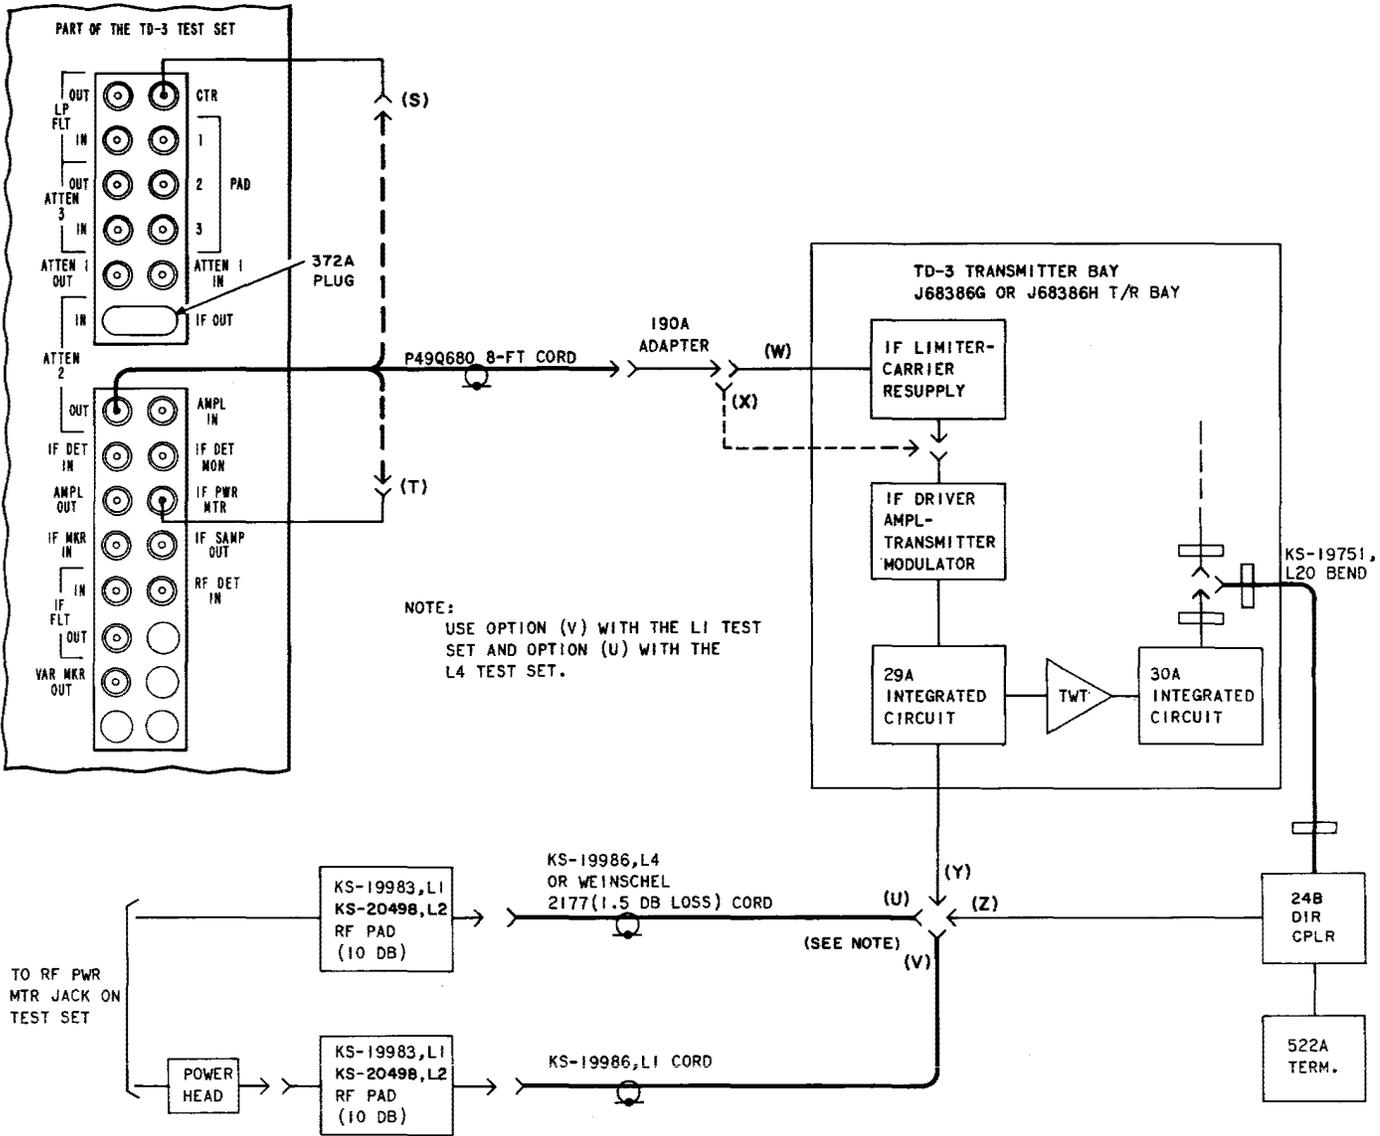

Fig. 2—Test Setups for IF-to-RF Gain Tests—J68392A Test Set
**CHART 18—PREPARATION FOR TEST (Fig. 2)**